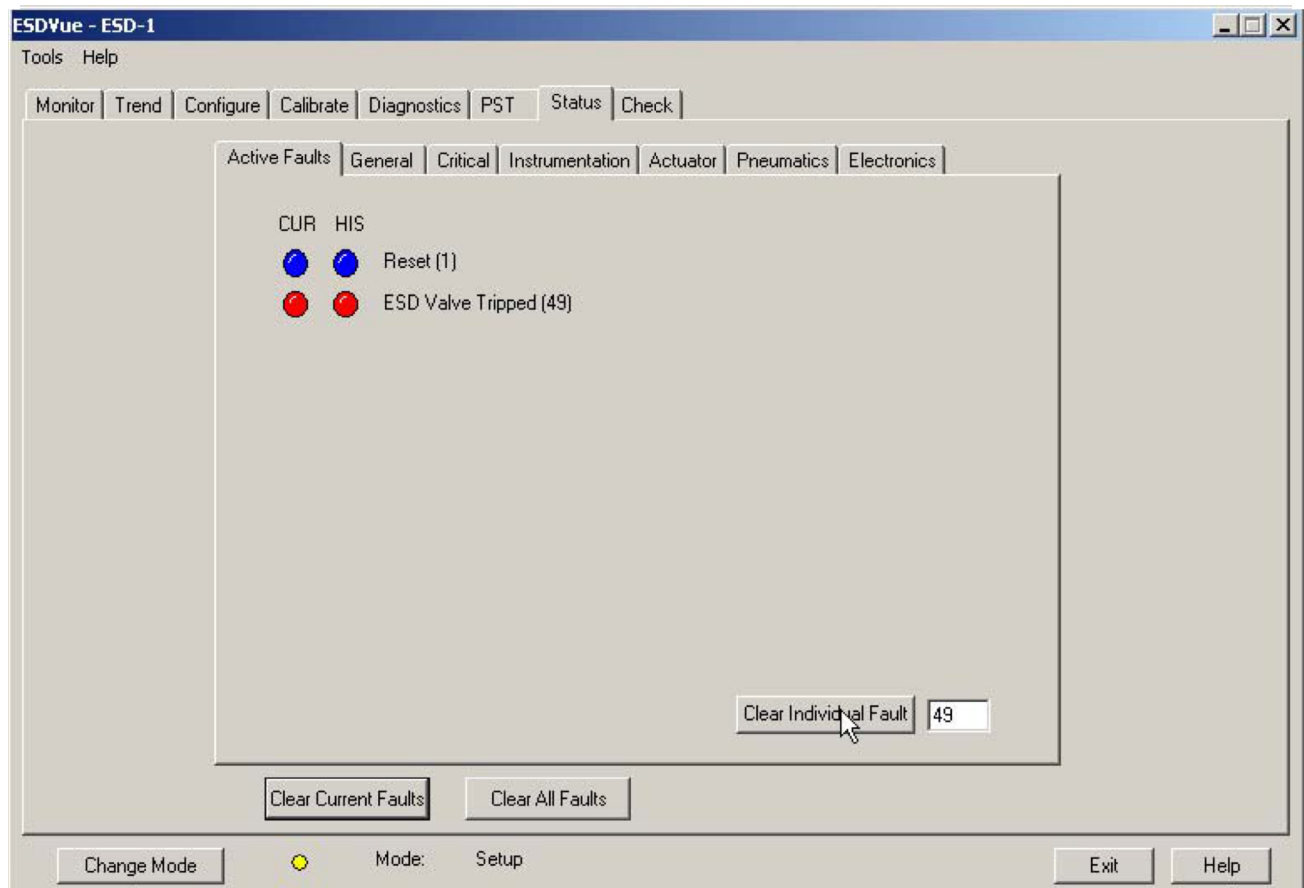

Figure 314 - Clearing an Individual Fault
2. Click **Clear Individual Fault** (*Figure 314*).